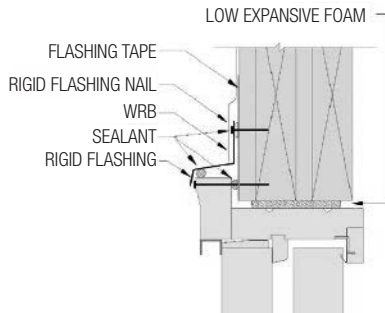

FIG. 17: HEAD JAMB
- A) Apply sealant: Apply a bead of sealant at the vertical and horizontal contact surface of the rigid metal flashing. (Fig. 17)
- B) Apply the rigid metal flashing. The flashing should extend approximately 1/8" past the edge of the brickmould on each side. Nail the flashing to the rough opening using at least a 1" roofing nail every 8"-10" approximately 1/2" from the top of the rigid flashing. Ensure that the nail is compatible with the rigid flashing material to prevent corrosion. (Fig. 17 & 18)
- D) Insulate between the door frame and the rough opening using minimally expanding window and door spray foam insulation. Use caution to not overfill the gap, causing the jambs to bow. It is not recommended to apply trim to the unit until the foam has cured to allow the excess to escape. (Fig. 17 & 19)